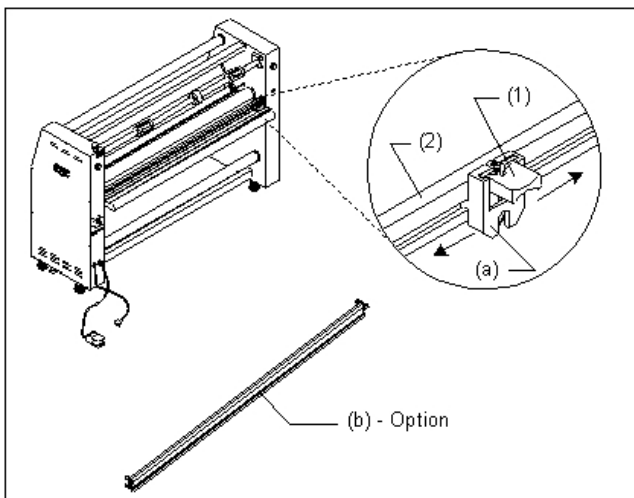

Fig 19
b. REAR SLITTER: (Figure 19) Used to cut off the laminated web. To use, push down on the blade engage lever (1) and slide across the rear slitter rail (2) to the opposite side.
c. SEPARATOR BAR: (Option) (Figure 19) Required if running Accushield™ material. To install, remove the rear slitter and position the separator bar in its place.